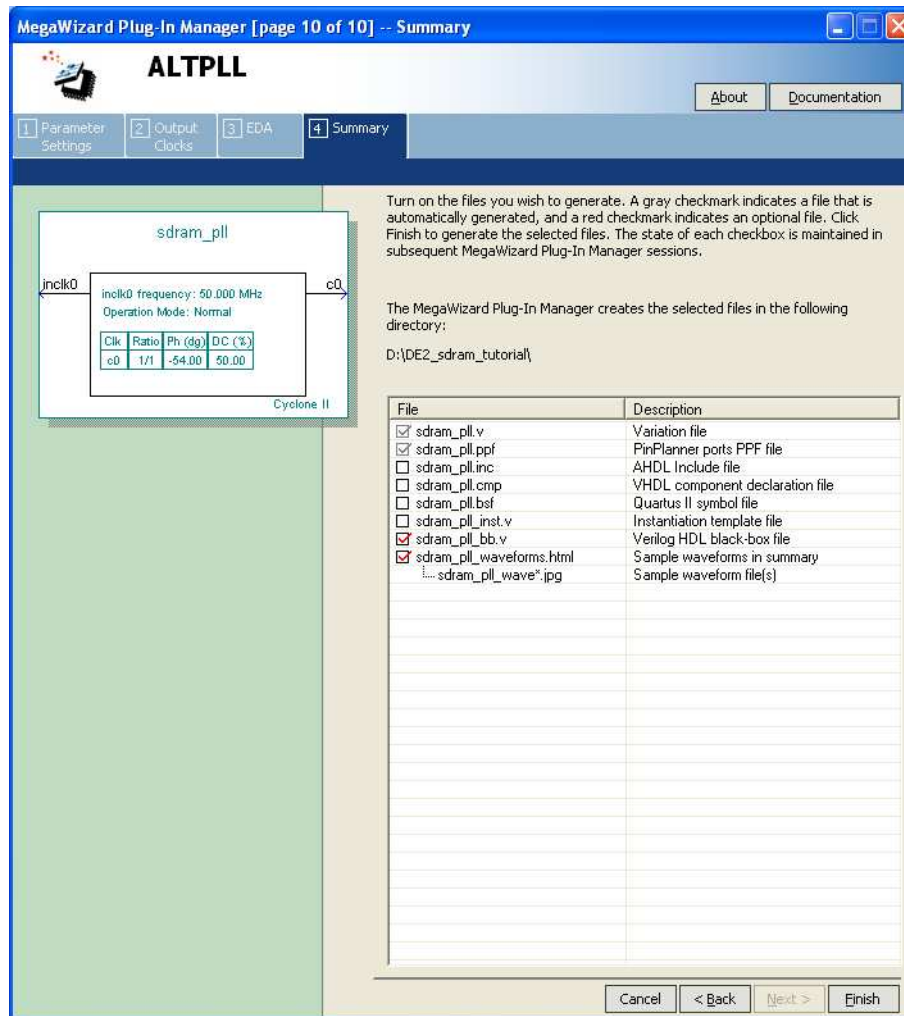

Figure 17. The summary page.
7. In the summary window in Figure 17 click **Finish** to complete the process. At this point, a box may pop up asking you to add the newly generated files to the project. In this case, select **Yes**.